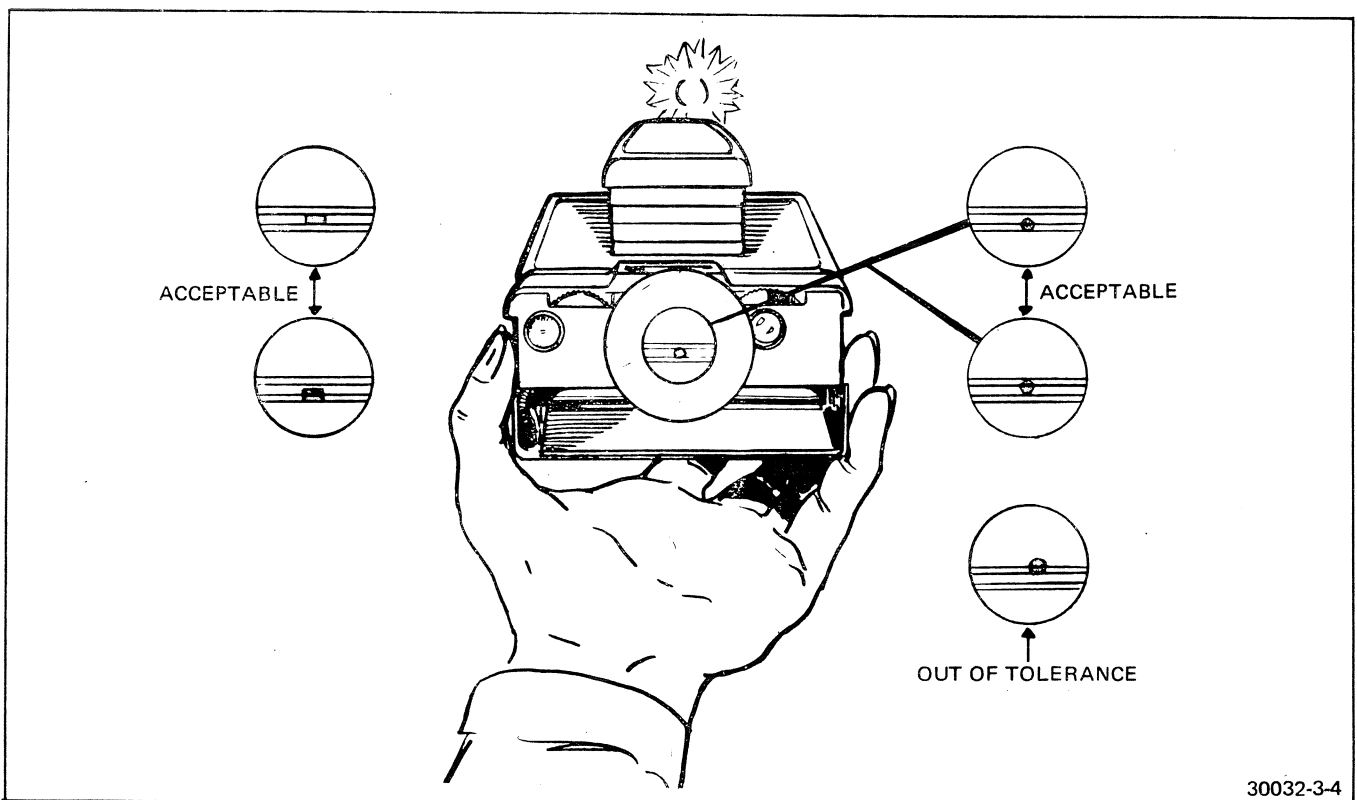

FIGURE 3-4 ENTRANCE PUPIL CHECK
- c. Observe the position of the rectangular stigmatic pupil (or the circular wafer lens, if the camera is so equipped). Refer to Figure 3-4 for the correct position of the pupil opening. The opening should fall within the parallel lines in the center of the gauge. This is the ideal. Acceptable, however, is finding the pupil located anywhere within the outer parallel lines. If this does not occur, the pupil is to be adjusted to pass this test as follows: